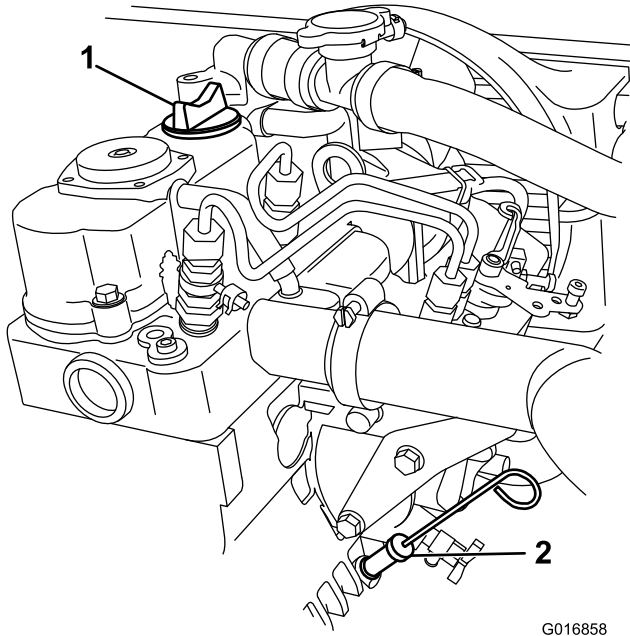

Figure 17
3. Use a rag to clean around the oil dipstick (Figure 17) so that dirt cannot fall into the dipstick tube and damage the engine.
5. Slide the oil dipstick into the dipstick tube fully seating it (Figure 17).
6. Pull the dipstick out and look at the end (Figure 17).
7. Install the oil dipstick and firmly seat it (Figure 17).